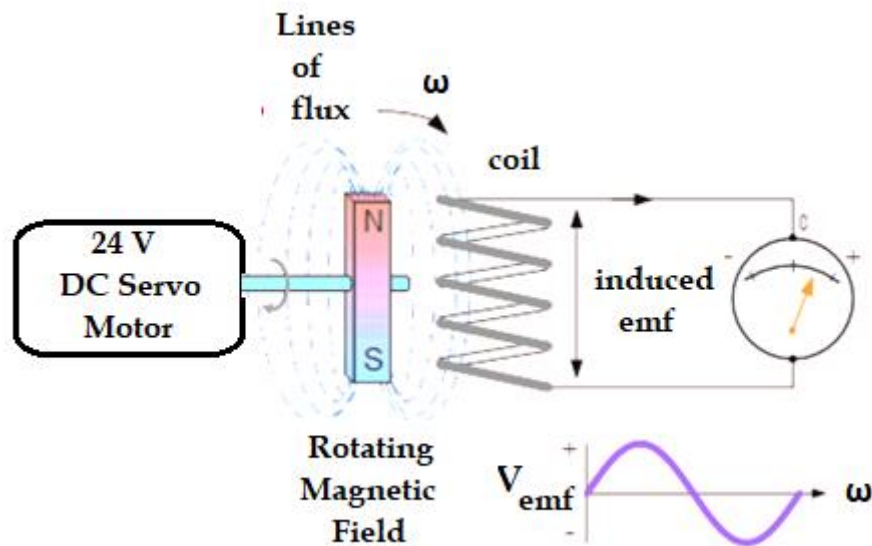

Figure 13.2 Concept of dynamically induced e.m.f
The Fig.13.2 shows the set up for verifying dynamically induced emf due to relative motion of a permanent magnet (PM) with respect to a multi turn fixed coil.